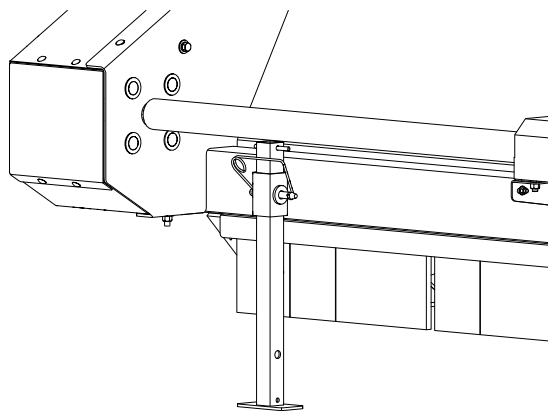

Figure 10. Parking Stand
17. Unpin front frame stands. Raise and pin in their upper position. See Figure 10.